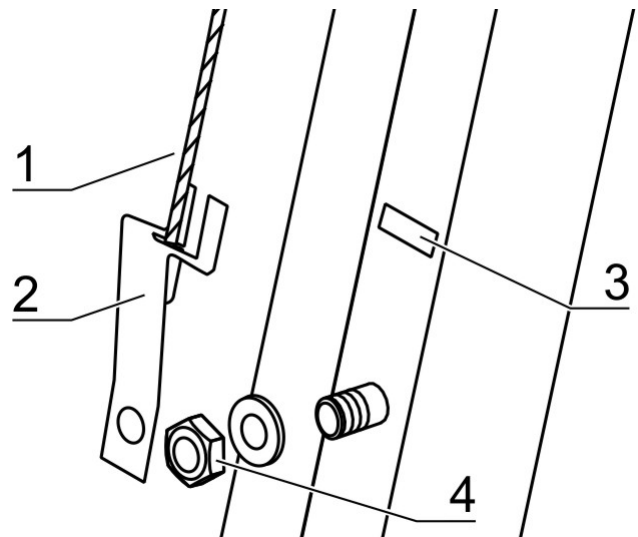

Figure 75. Cable retainers
7. **Figure 75:** Remove the cable retainers [2] on both sides of the front window. Remove the nuts [4] and remove the cable retainer from the recess [3] on the frame.